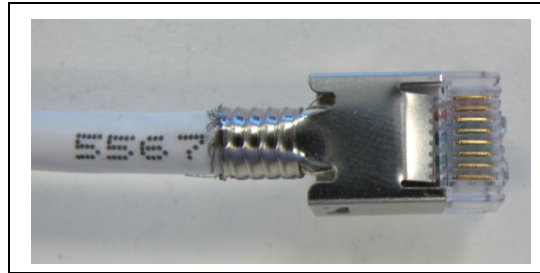

Figure 11. Trim any Braid or Foil
5. Trim away any braid/foil and drain wire left extending beyond the end of the plug shield. See Figure 11.